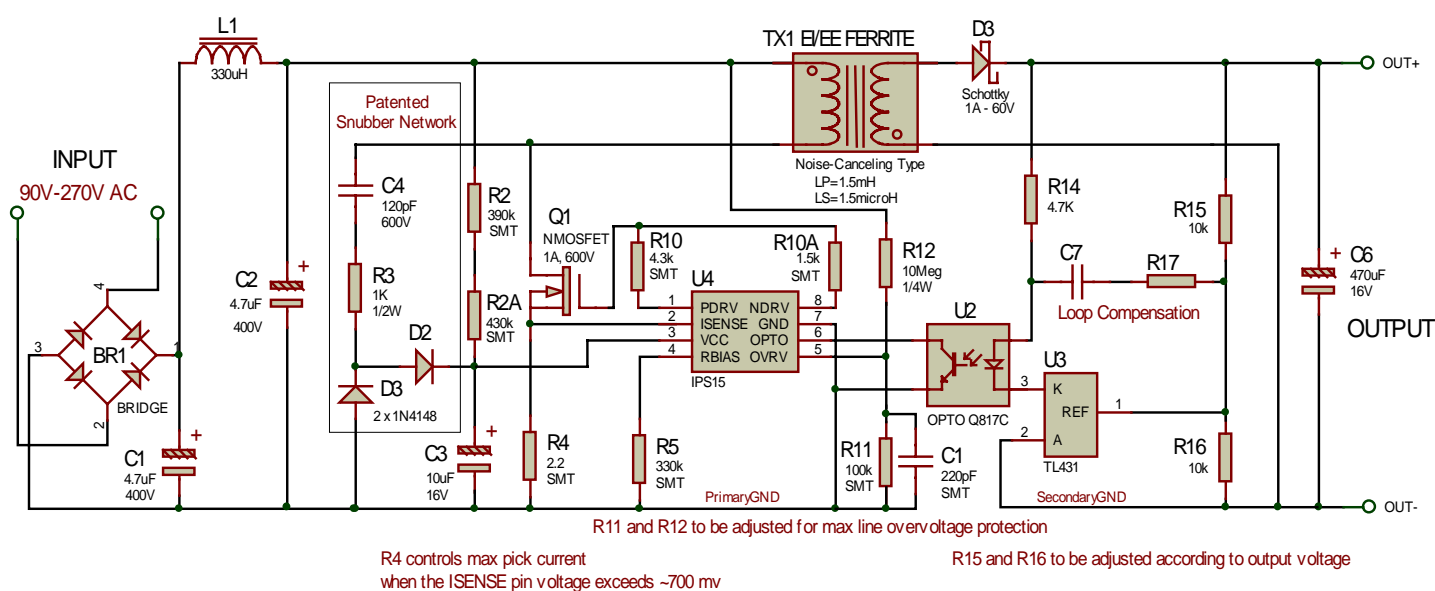

Figure 5
- (b) Involving very different types of loop stability from "cycle skipping" where the loop is not compensated at all (figure 1), to good stability achieved through the utilization of a TL431 (figure 5) and finally superior transient response when using the IPS25 feedback controller (figure 6).
In the example of figure 5, the output voltage is 10 volts as defined by R15 and R16 and 2.5V at the Pin #1 of the TL431. The cathode of the TL431 can go to a voltage as low as 2 Volts. The IR LED requires approximately 1 Volt which means that the voltage drop across R14 could be up to 6 volts resulting in a maximum current of 700uA. This value is plentiful for the utilization of a broad range of optocouplers and yet small enough to avoid hard saturation.
This is achieved by the loop compensation network **C7, R17** of figure 5. The gain rolls off until the impedance of C7 reaches the value of R7. At much higher frequencies, the gain continue to roll-off due to the natural frequency response of the TL431.